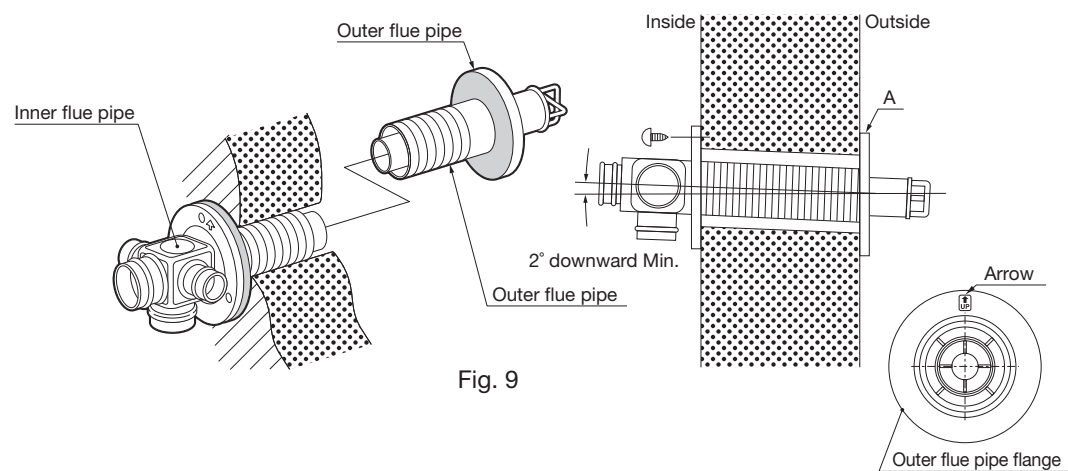

Fig. 9
- c. From outside, insert the outer flue pipe through the hole. Secure the outer flue pipe to the wall by turning it clockwise. This locks the two halves together (See fig. 9).
Make sure to secure the outer flue pipe well. (A-part shown in Fig. 9)